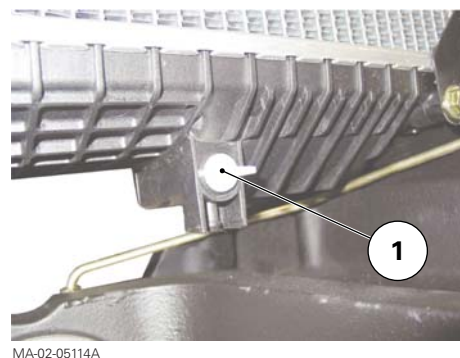

Fig. 5
15. Unscrew the wing plug (1) located on the left-hand side and front of the radiator (Fig. 5). Drain the liquid into a clean container.